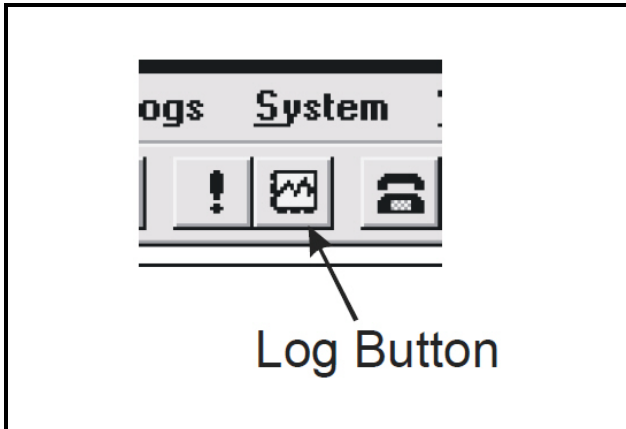

Figure 6-2 Log Icon in Command Line
If Collect is chosen, the tree view will list available logs to view. To view the logs, click in the Check Boxes the graphs you want to view and click on the Log Button in the command line (see *Figure 6-2*).
4. 4. Click on the Graph Icon in the command line (see **Figure 6-2**).